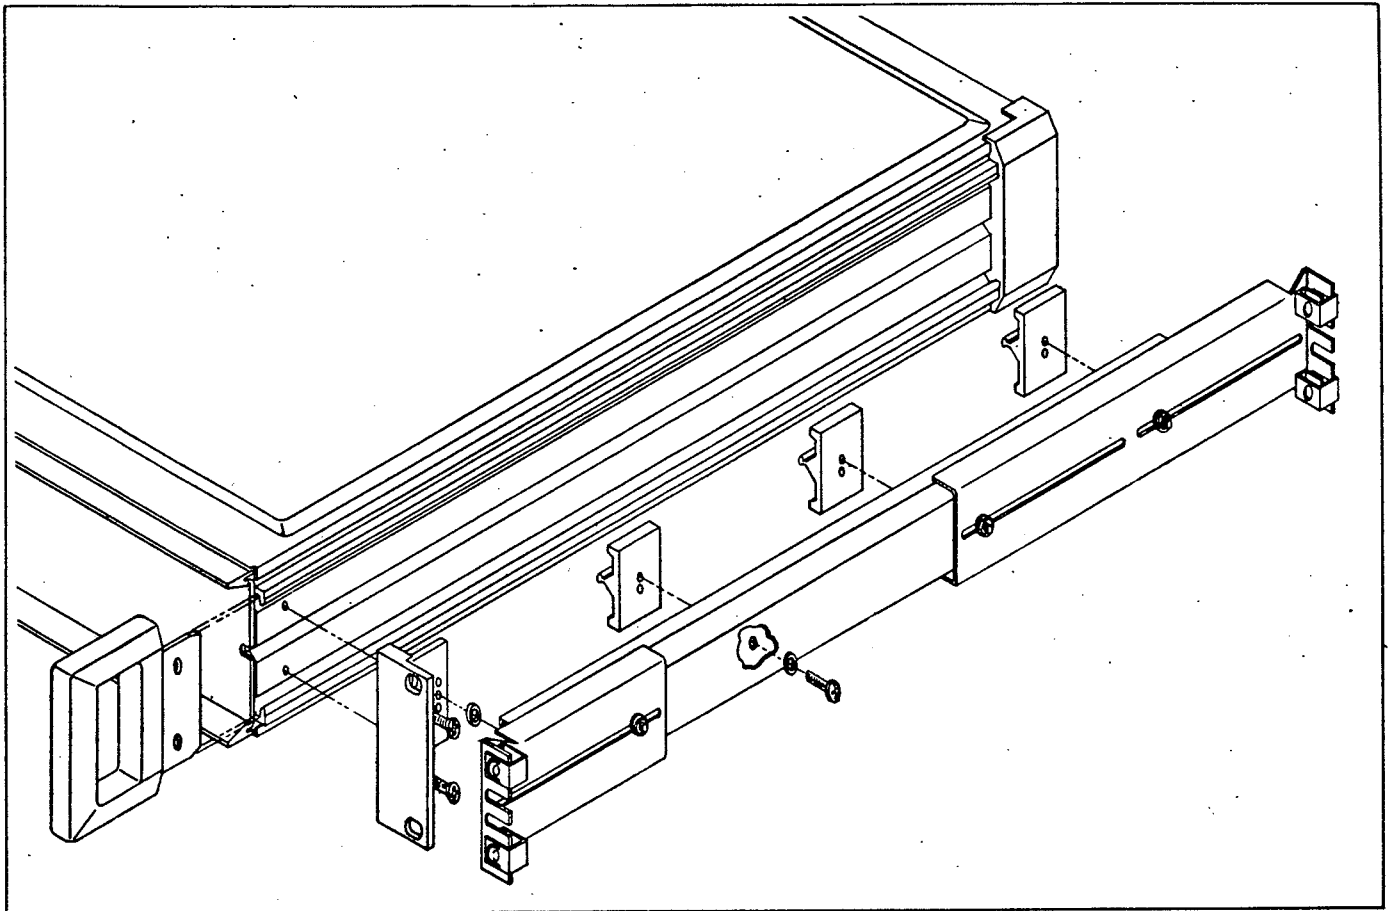

Figure 2.5 - Slide-mount and Instrument Assembly
- b. Position the instrument between rails so that first screw-hole immediately behind the handle on each side, line up with the screws held by the rails. Keeping the alignment spacer between the rail and instrument seat the self-tapping screws to a pull-up position. The unit and slide-mount assembly are illustrated in Fig. 2.5.